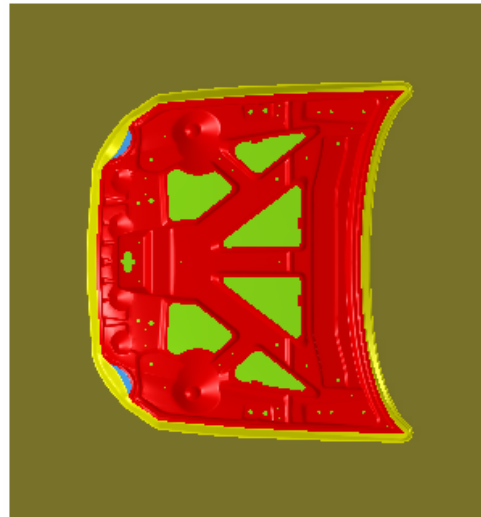

Figure 51 Generation of die face
13. The die face generation is complete, as illustrated in Figure 51.